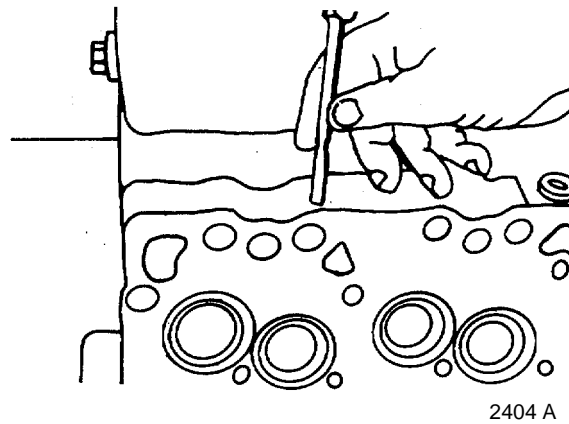

FIGURE 4-24. Marking Re-ground Valve Seats
(12) Mark the cylinder head to identify the re-ground valve seats (FIGURE 4-24).
d. Measure the valve lobes and lift pump lobe with micrometer. Refer to FIGURE 4-24 and Table 4-4.